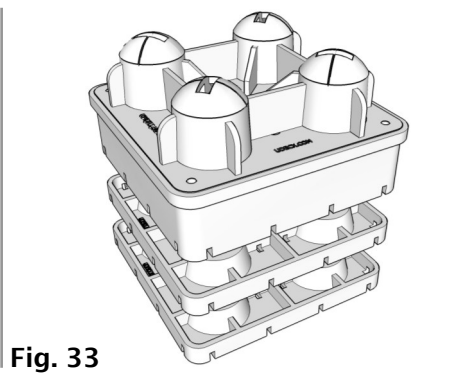

Fig. 33
**15.** 1" Shims (G) and a 3" Riser (H) can be used in conjunction with each other. **ALWAYS** place the 1" Shim or Shims (G) below the 3" Riser (H). **NEVER** use more than 2 Shims (G) with any Riser (H) (Fig. 33)